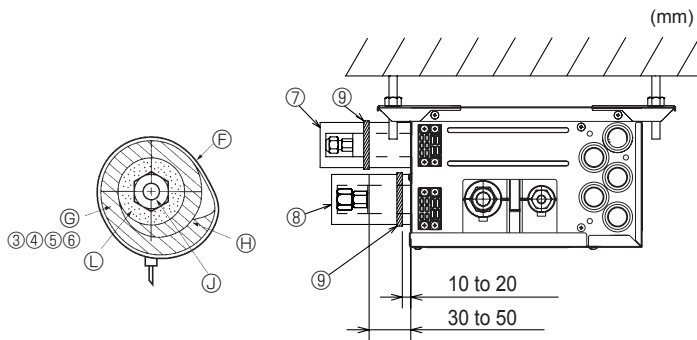
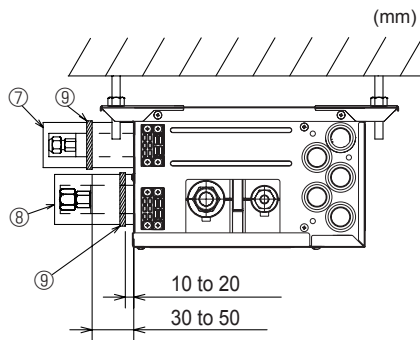

Fig. 7-3
Fig. 7-4
- (3) Connect the refrigerant piping immediately. Always tighten the flared nuts to the torque specified in the table 2 using a torque wrench and double spanner.
- (4) Press the pipe covers ③ and ⑤ on the liquid piping against the unit and wrap to hold in place. (Fig. 7-3)
- (5) Press the pipe covers ④ and ⑥ on the gas piping against the unit and wrap to hold in place. (Fig. 7-3)
- (6) Apply the supplied bands ⑨ at a position 10 - 20 mm from each end of the pipe covers (③④⑤⑥).
- (7) If the indoor unit is not connected, fit the supplied pipe covers (with caps, ⑦ and ⑧) to the branch box refrigerant piping connections against the unit to prevent condensation dripping from the pipes. (Fig. 7-4)
- (8) Clamp the pipe covers (⑦⑧) in place with the supplied bands ⑨.
- Ⓕ Band ⑨
- Ⓖ Pipe covers ③④⑤⑥
► Use the following procedures for indoor connection part which indoor unit is not connected. (Fig. 7-4)
- (1) In order to prevent refrigerant leaks, make sure that the flare nuts are tightened according to the specified torques* in Table 3.
- (2) In order to prevent condensation, install the pipe covers ⑦ ⑧ against the unit and fasten them with the supplied bands ⑨.